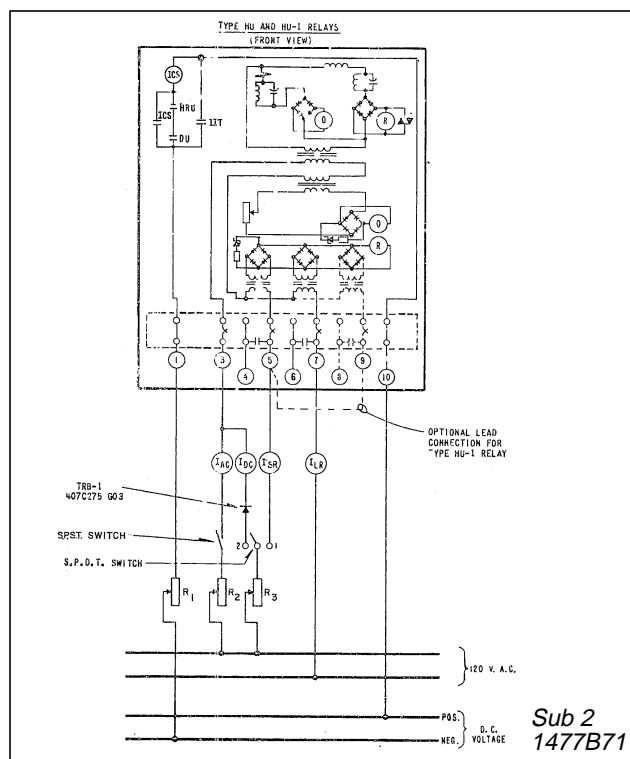

Figure 16. Test Circuit of the HU and HU-1 Relays
the relay is in proper working order. All checks can best be performed by connecting the relay per the test circuit of figure 16. **RELAY MUST BE TESTED IN CASE.**
Table 2 is to be used as an in-service check of the HU or HU-1 relay using any tap combination. This test also checks against reversed tap connections. The relay should be connected as shown in figure 16 with the SPDT switch in position 1. The ammeter  $I_{SR}$  measures the smaller restraint current and should be connected to the terminal associated with the tap block of the smaller setting. The ammeter  $I_{LR}$  measures the larger restraint current, and should be connected to the terminal associated with the larger tap block setting. Terminal 5 supplies the upper tap block; terminal 7 supplies the second tap block; and terminal 9 (HU-1 only) supplies the lower tap block (refer to figures 3 and 4).
1. Polarization Test - Connect the relay per test circuit of figure 16. Close SPDT switch to position 2 and open SPST switch ( $I_{ac} = 0$ ). Pass  $I_{dc} = 0.8$  times tap value current (4 amperes dc on 5 ampere tap) into the relay.